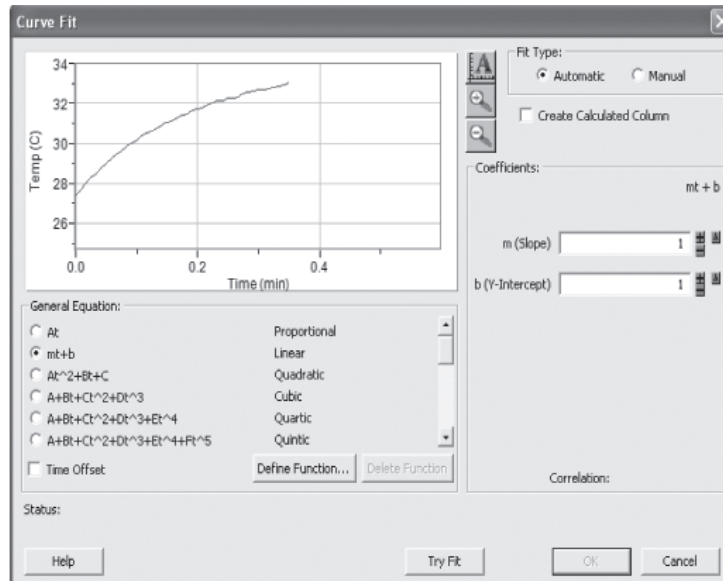

Figure R4.27 | Curve Fit Window.
- ii. Go to **Analyze > Linear Fit** or **Curve Fit** to open the window (Figure R4.27). Once the window opens, select the type of curve you would like to apply to your data (e.g. linear, polynomial, power, etc.). Then click **Try Fit** and the line will be drawn on your graph.